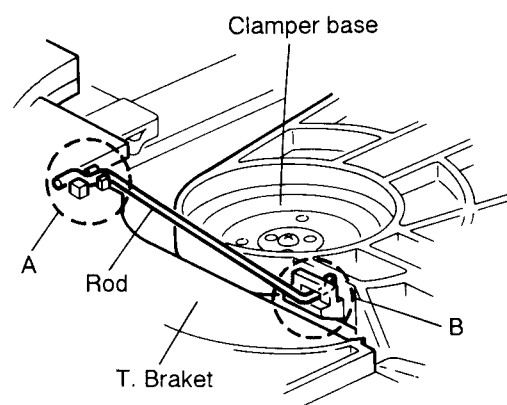
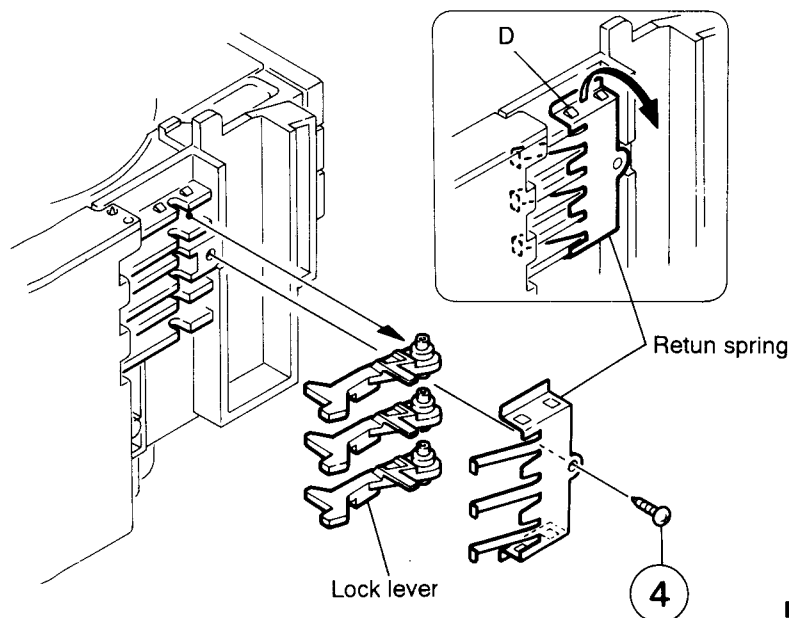

Fig. 5-17
Fig. 5-19
(See Figs. 5-17~5-23)
4. From the T. bracket section (A) and clamber base section (B), remove both of the edges fixing the rod (See Figs. 5-17 and 5-18).
5. Remove the three screws (1) retaining the T. bracket (See Fig. 5-17).
6. From the left side face of the chassis assembly, remove the one screw (4) retaining both of the return spring and lock lever.
7. By removing the pawl at the section (D) fixing the return spring, dismount the return spring (See Fig. 5-19).
8. Remove the three lock levers (See Fig. 5-19).